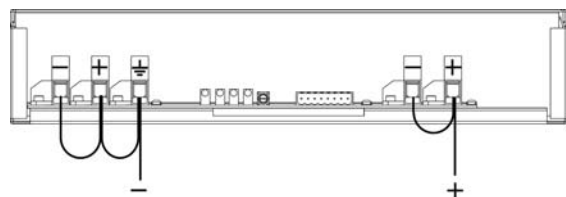

Figure 8. Output to case isolation voltage test.
3. Connect the output terminals together. Connect your isolation tester between output and case. See *Figure 8. Output to case isolation voltage test.*